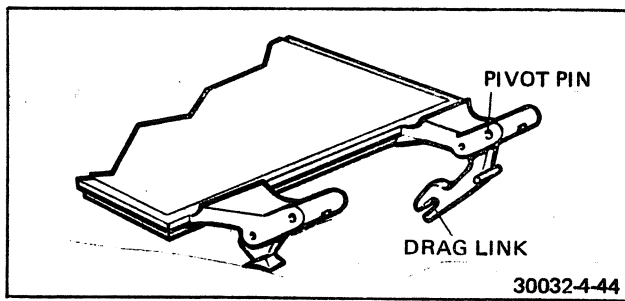

FIGURE 4-44 DRAG LINK
- a. Refer to Figure 4-44. Use a miniature drift pin or Special Tool #11662 and drive the pivot pin just far enough to clear the drag link.
- a. Refer to Figure 4-44. Use tweezers and release the drive pawl spring.